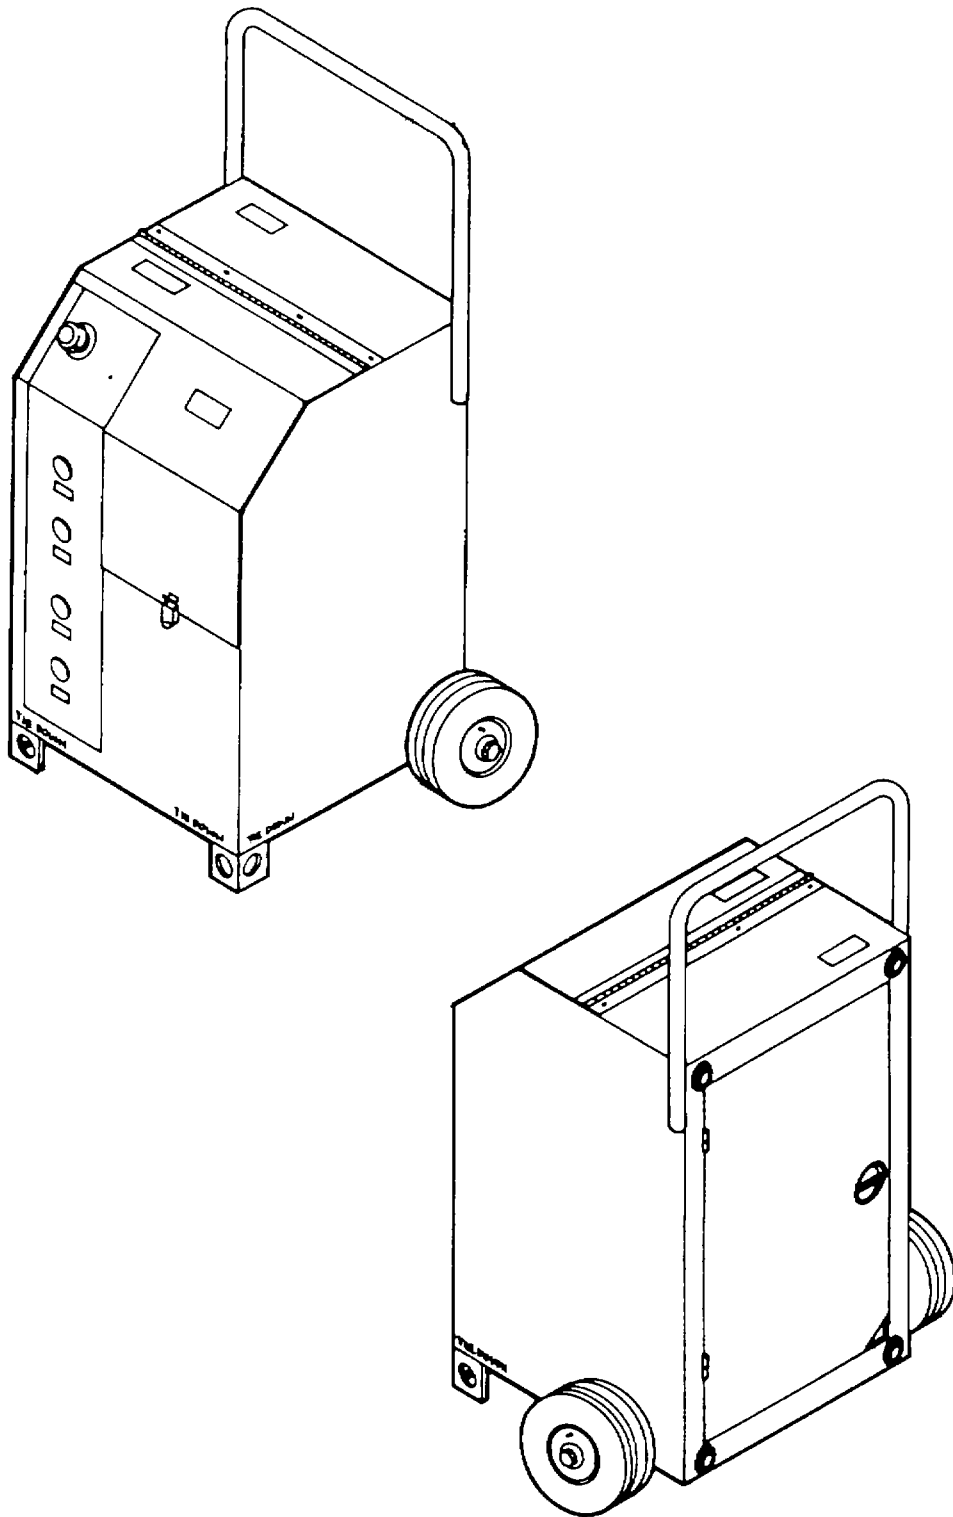

Figure 1-1. Hydraulic Kneeling/Erecting Cart
**1-7. Characteristics and Purpose.** The hydraulic kneeling/erecting cart (Figure 1-1) is portable and maneuverable by one person. It uses electric power supplied by aircraft or batteries to drive the hydraulic pump which kneels or erects the struts of a helicopter by removing and replacing hydraulic fluid.